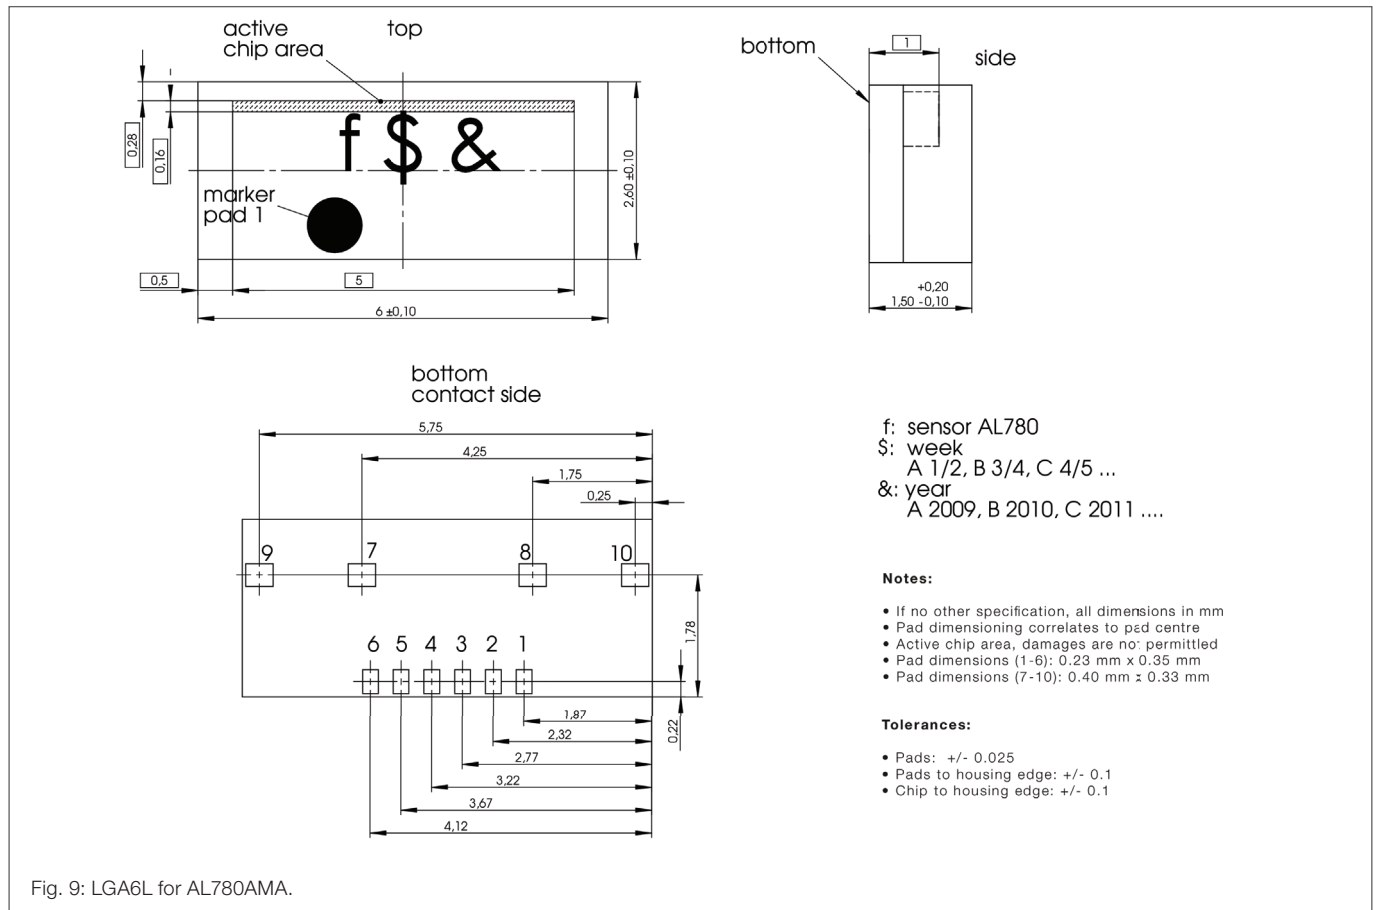

Fig. 9: LGA6L for AL780AMA.
9)  $\Delta X = |x_{real} - x_{measured}|$  with a working distance of 2000 microns without affecting the sensor offsets on a typical scale (for example Tromaflex® 928). See Fig. 9 for detailed information and the influence of the air gap between sensor and scale.